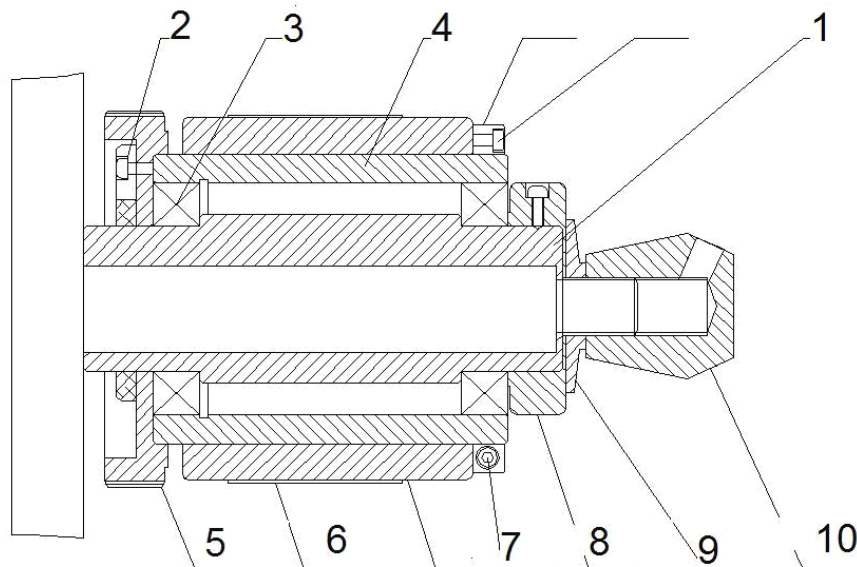

Fig.1-2
Twice diameter blanket cylinder is positioned by four screws' shaft, when sticking the blanket, loosen the screws, take the blanket cylinder off, stick the special double-side tape on the offset device, then paste the blanket with tidy level. (If the double-side tape is not pasted on, you can grit with abrasive paper, because the dirty may be on the roller), then install it on the printing machine, press it with embossing rolling ③ turn the machine to press the blanket flat, the shaft core of the press printing roller is a kind of structure of eccentric structure, it can adjust the pressure. The shaft core of printing roller② is also a kind of eccentric adjusting structure (illustrated Fig.1-2), it is used in adjusting its printing pressure. The inking transmission circuit are composed of wavers ④ , inking roller⑤, inking supplying⑥, glue roller, duct used for storing ink, glue roller and ink roller are used for transmission ink, the wavers is used for evening the ink. The ink can be controlled by screws ⑧ adjusting. If it needs stopping, turn the OFF hand wheel.
Illustrated as Fig. 1-2, loosen the screws of positioning sleeve ⑦, knock the plate cylinder ⑥ by rubber hammer and move it left and right